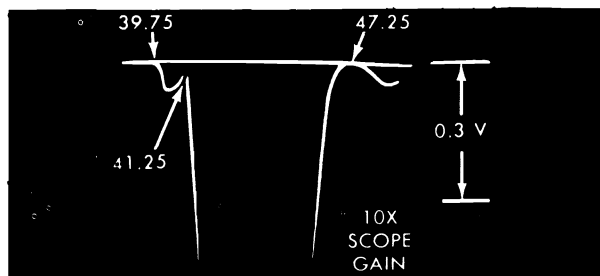
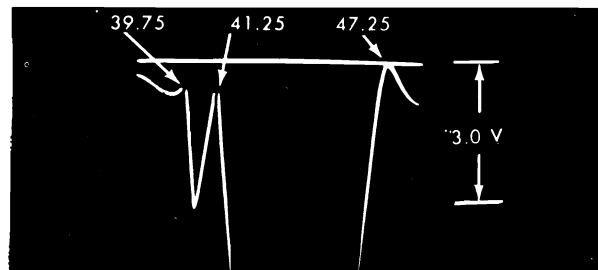
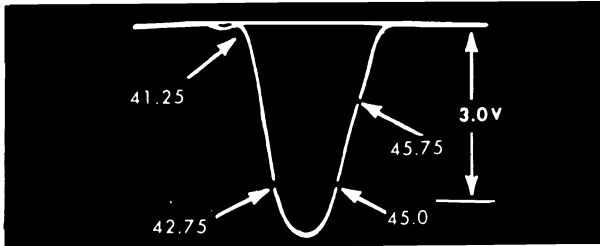

Fig. 3. Expanded View of Traps
Fig. 4. Further Expansion of Fig. 3. for Detail View of the 39.75 and 47.35 MHz Traps.
Fig. 5 Overall IF Response Curve.
5. Connect the sweep generator to terminal "A" (converter grid). Connect terminal "F" to chassis and connect a jumper between terminal "E" and chassis. Adjust the sweep to obtain a 3V. P.P. response similar to Fig. 5. Switch oscilloscope to 10X gain to "blow up" the traps (Fig 3).
6. Refer to Fig.3. and adjust the 39.75 MHz and the 41.25 MHz traps for minimum marker amplitude. Connect jumper between "E" and the junction of the 68 ohm and 1800 ohm resistors in the cathode circuit of the 1st I.F. This provides an additional "blow up" of the 47.25 MHz traps (Fig. 4). Adjust the 47.25 MHz trap for minimum marker amplitude.
7. Disconnect jumper between "E" and the 68 ohm and 1800 ohm cathode resistors. Connect this jumper between "E" and chassis. Adjust sweep generator for 3 volts peak to peak output at the second detector. Alternately, adjust the 2nd, 3rd, 1st IF and the converter plate coil until an overall response similar to Fig. 5. is obtained. It will be found that the 2nd IF affects the low side (42.75MH) and the 3rd IF, the high side of the response curve.